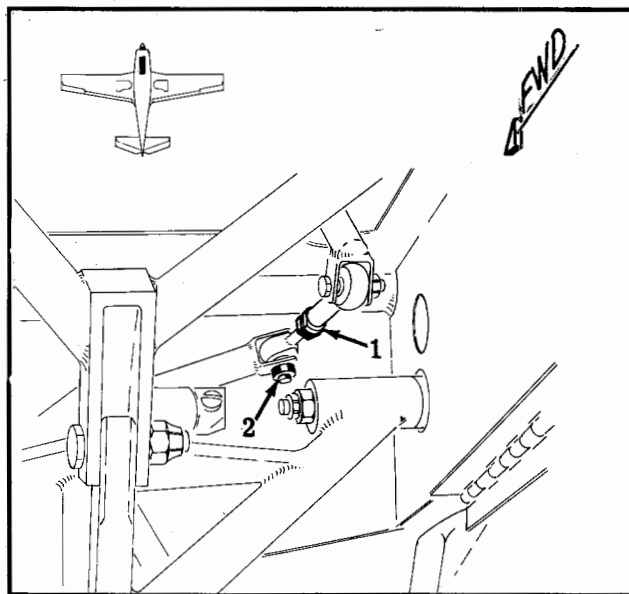

Figure 6-9. Nose Gear Steering Linkage Adjustment
- Adjust nose wheel steering interconnect linkage (1), Figure 6-9, to center nose wheel.